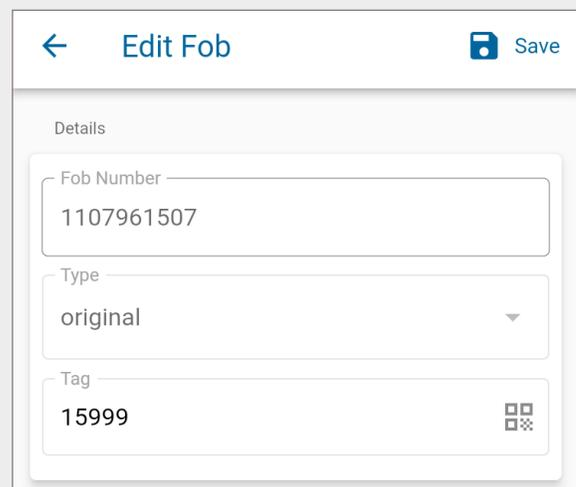

Fig. 173 – Edit Fob screen
4. Type the **number** of the Smart Tag you wish to attach to the fob, as shown in Fig. 173.